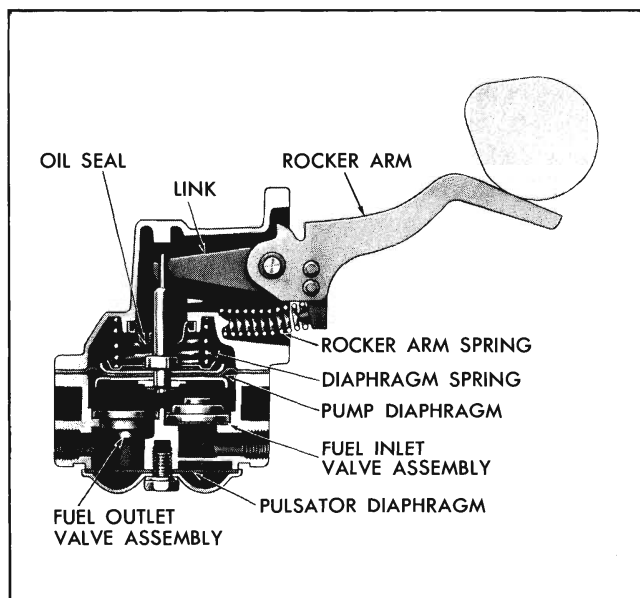

Fig. 6B-71 Schematic Fuel Pump
DESCRIPTION (Fig. 6B-71)
2. Place pump in soft jawed vise (Fig. 6B-72).